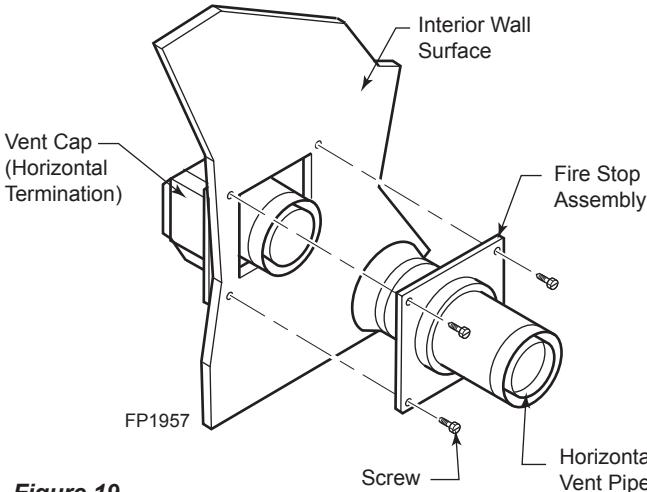

Figure 19 -
6. Slide the wall thimble over the vent pipe before connecting the horizontal run to the vent cap. *Figure 19*
8. Slide the wall thimble against the interior wall surface and attach with screws. *Figure 19*